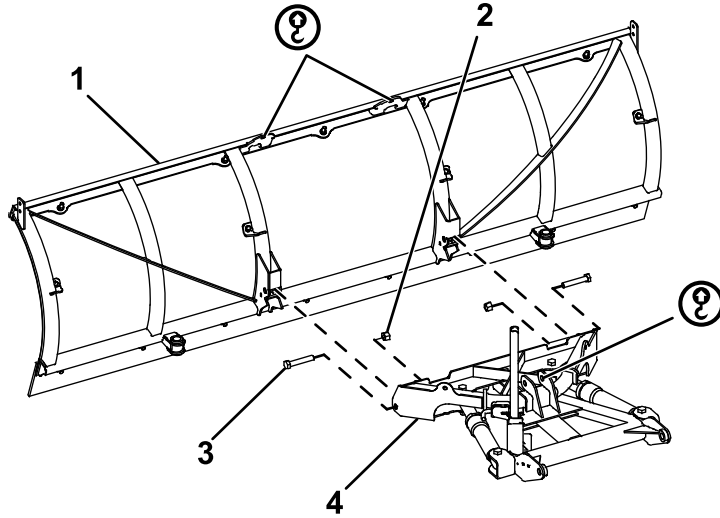

Figure 3
1. Attach the front of the push-frame assembly to the plow blade using 2 bolts (5/8 x 4 inch) and self-locking nuts (Figure 3). Torque the bolts to 153 N·m (113 ft-lb).